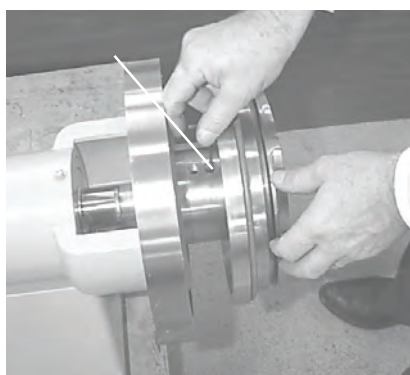

Figure 23
9. Pull #2 impeller out far enough to remove the 1/4" plug. (Figure 23)
10. Use Allen wrench to loosen setscrews (4) that lock spring retainer to impeller shaft. Pull impeller and baffle off drive shaft.